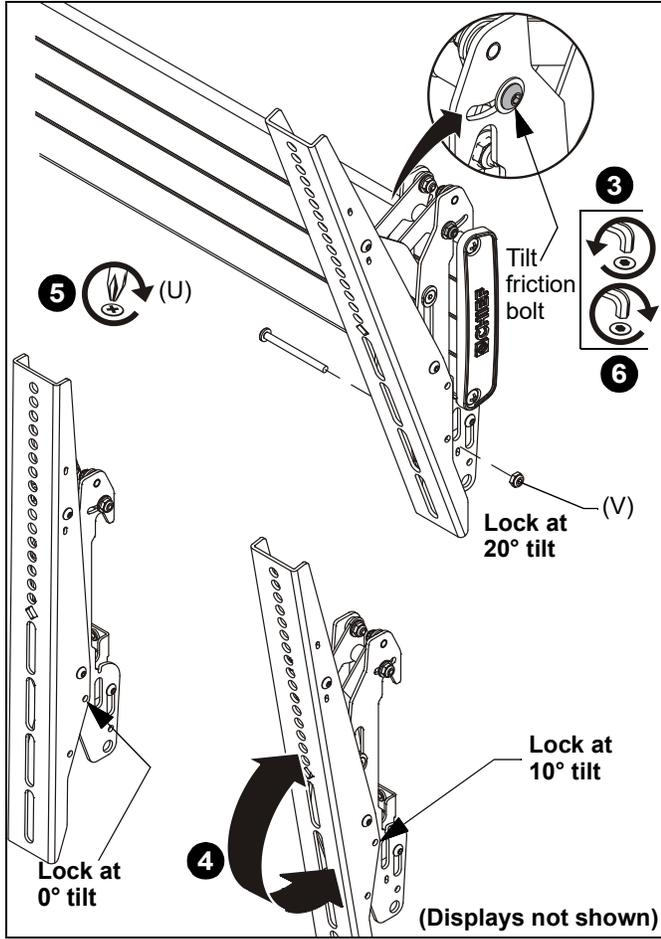

Figure 22
3. If necessary, loosen buttonhead tilt friction bolt (located on side of interface bracket). (See Figure 22)
4. Adjust tilt as required. (See Figure 22)
5. The tilt may be locked at 0°, 10° and 20° using one 10-24 x 2-1/4" Phillips head screw (U) and one 10-24 lock nut (V) per interface bracket. (See Figure 22)